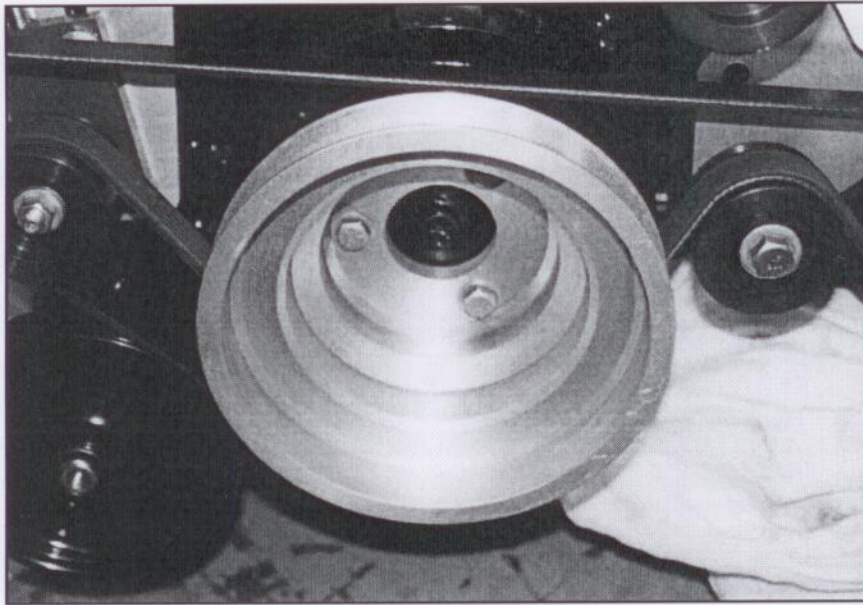

FIGURE B2
10. Install the supplied crankshaft pulley using the supplied 3/8" x 1.5" bolts as shown in Figure B2.